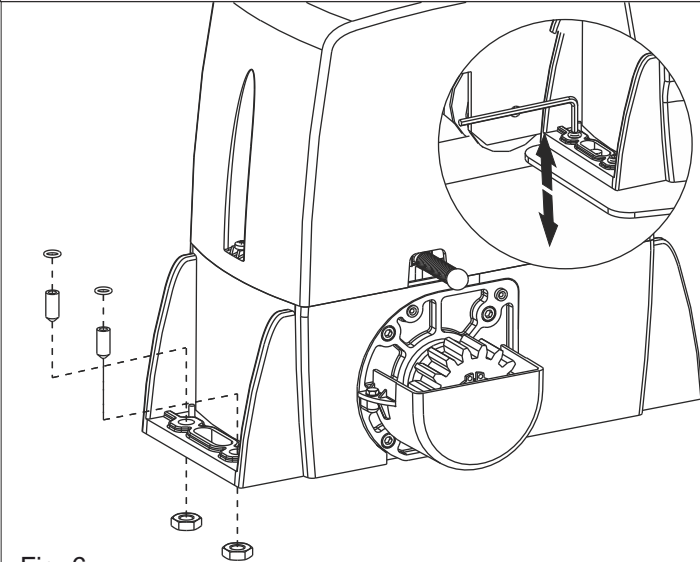

Fig. 6
**4.1.** Insert the 4 grub screws into the special holes, in order to adjust the gearmotor height on the plate (Fig. 6)